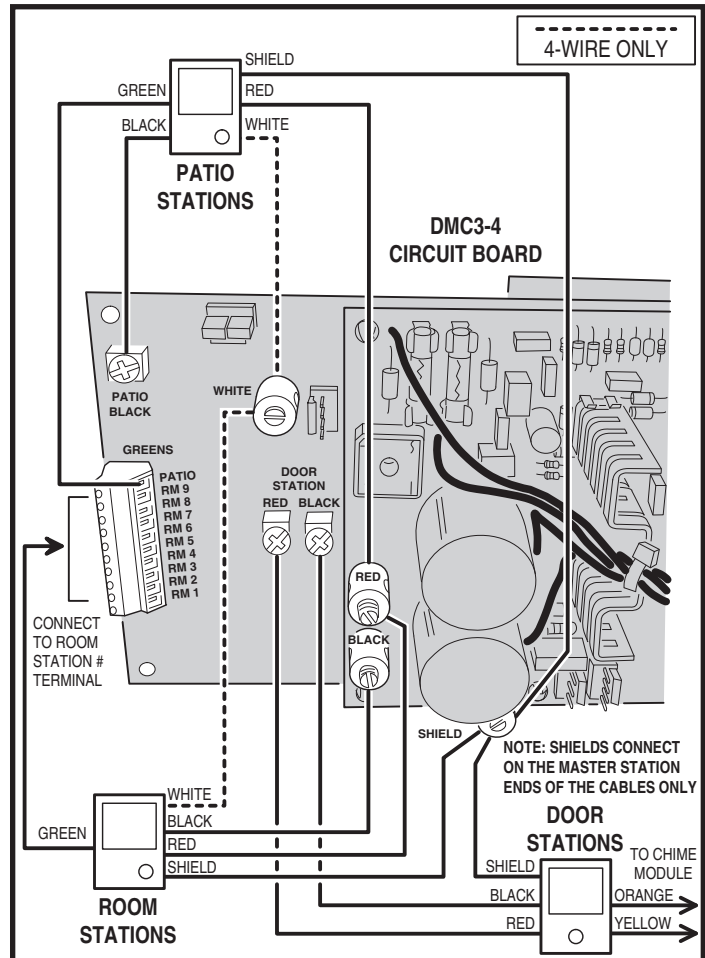

Figure 16. Room, Patio, & Door Station Connections
1. Connect each GREEN wire (except patio GREEN) to a single RM# green wire terminal on the master. Each numbered RM# green wire terminal corresponds to a remote station selector switch. Refer to Figure 16 for wire placement.
1. Connect the RED and BLACK wires of the door station cables to the RED and BLACK door station terminals on the DMC3-4 Master Station (see Figure 16).